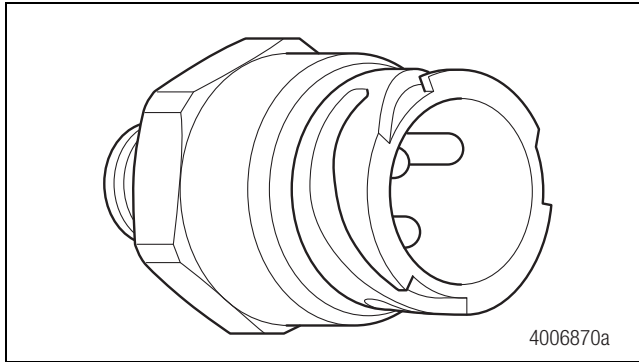

Figure 10
1. Remove the air line and fitting from both passenger side air bags. Figure 10.